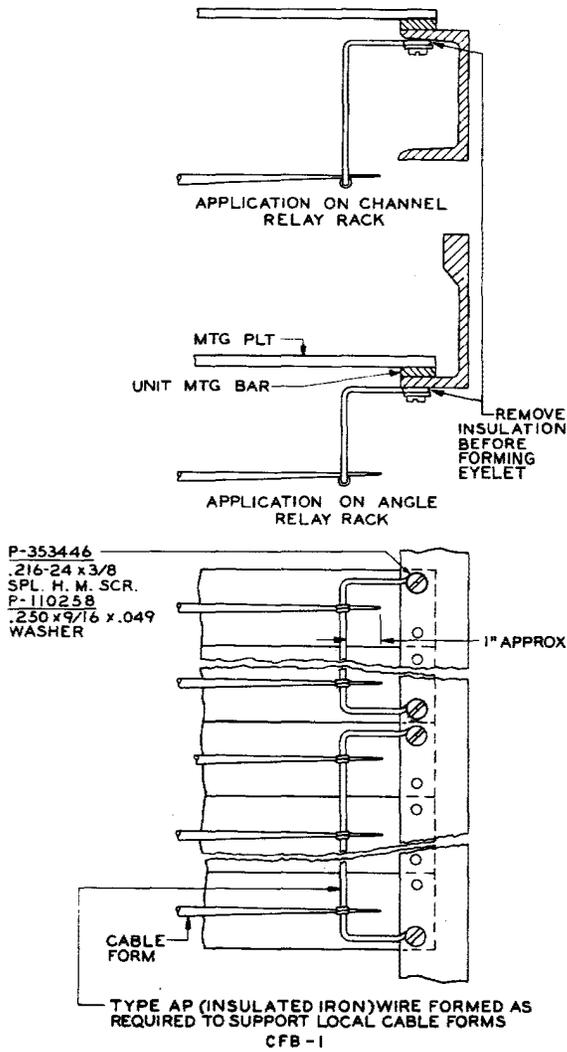
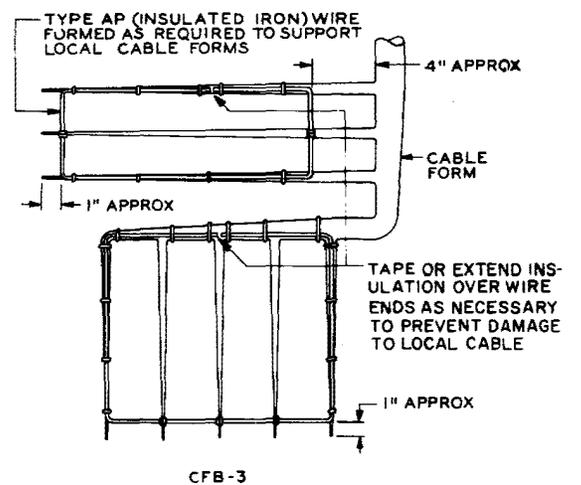

Fig. 1—Bracing Horizontal Cable Forms to Frame Uprights (Relay-Rack Unit Shown)
Fig. 3—Reinforcement of Cable Forms
3.01 When supplementary supports are specified for cable forms, use type AP (insulated iron) wire for reinforcing and bracing as indicated in Fig. 1, 2, and 3. Locate the reinforcing wire on the side of the forms away from the equipment. Fasten the wire tightly to the forms with No. 6-, 9-, or 10-ply sewing twine, spacing the ties approximately 3 inches apart. Cut ends of twine close to the knot. ♦Where horizontal forms are
(a) For convenience in specifying cable form braces in the design specifications or drawings, or in job specifications, reference numbers CFB1, CFB2, and CFB3 are assigned to the three types of cable form braces shown in Fig. 1, 2, and 3, respectively.
3.02 Brace forms to the framework where the arrangements are such that the end of the brace wires can be conveniently fastened (as in the case of forms at relay rack units), as shown in Fig. 1 and 2. Attach the brace wires to the rear of the relay rack uprights with 0.216—24 x 3/8 inch special head machine screws in the tapped holes regularly provided in the uprights. By
3.03 *Where conditions are not suitable for attaching the form braces to the framework,* reinforcement should be provided in a manner similar to the example shown in Fig. 3. While a closed loop arrangement of reinforcement is shown, the shape of the reinforcement may be varied to suit conditions. The U- and L-shaped reinforcement will also be commonly used for supporting small or weak forms from adjacent rugged forms. In general, this type of cable form brace would be used only for the support of occasional individual weak forms from adjacent rigid forms, although it may sometimes be found more convenient to use this type of reinforcement for reconditioning wiring, instead of braces described in 3.02.
3.04 *Cable-Duct Framework:* When forms extend outside of the frame uprights, attach the form brace wires in a manner similar to that shown in Fig. 1 and 2 for the application on angle relay racks. The brace wire should be mounted under the heads of the mounting plate screws with a P-110258 washer on each side of the brace wire eyelet. Replace the regular mounting screws with longer screws of the same type. Forms between the uprights requiring reinforcement shall be treated per Fig. 3.
3.05 *Box-Type Framework:* When forms extend outside of the frame uprights, attach the form brace wires in a manner similar to that shown in Fig. 1 and 2 for the application on angle relay racks. Forms between the uprights requiring reinforcement shall be treated per Fig. 3.